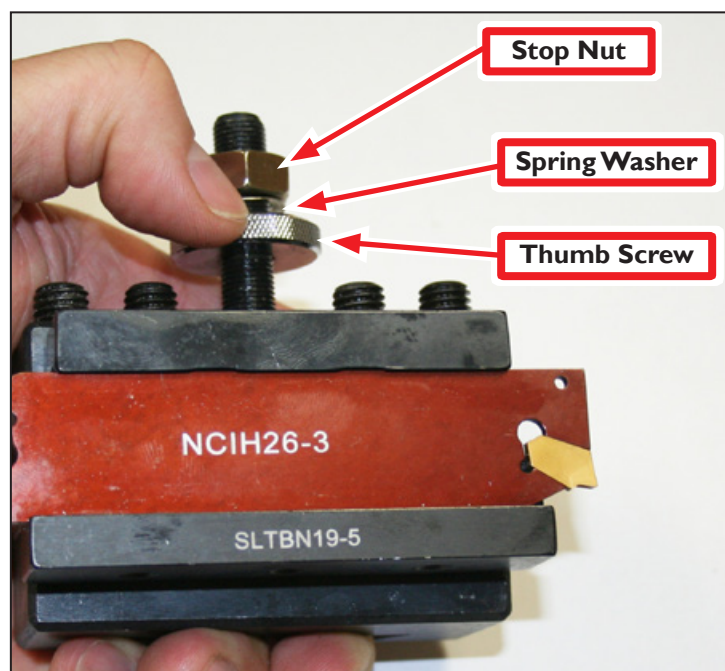

Figure 8
8. Adjust Thumb Screw to set Tool Holder height; secure with Stop Nut (see **Figure 8**).